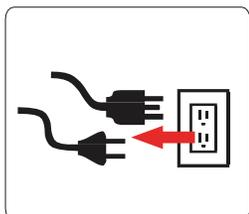

Fig 14
- All electrical loads **MUST** be disconnected from the generator. Never start or stop the engine with electrical devices plugged-in to the receptacles. (See fig 14)